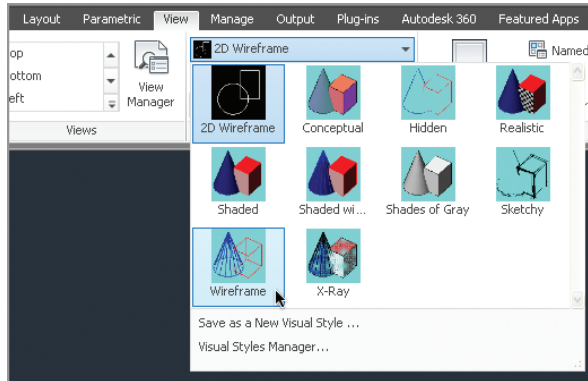

FIGURE 16.2 Selecting a visual style
3. Select the ribbon's View tab, and open the Visual Styles drop-down menu at the top of the Visual Styles panel (see Figure 16.2).